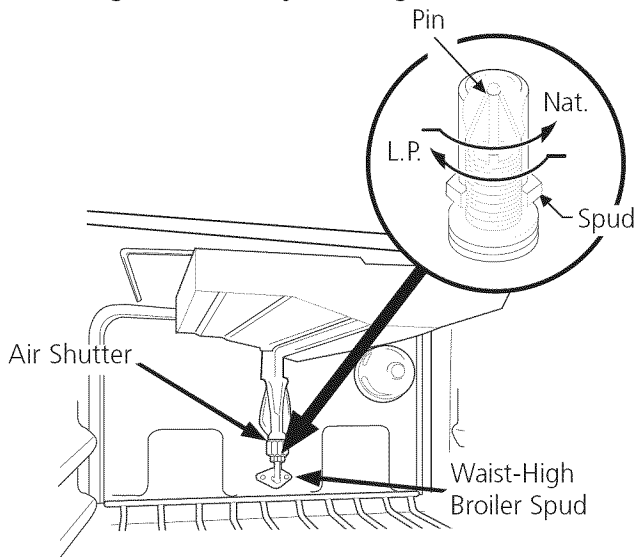

Figure 10
C. Adjust Broiler Burner Orifice (Self-Cleaning Models Only) (see figure 10)
Using a ½" wrench, turn down the adjustable spud which injects gas into the oven burner. Turn spud approximately 2½ turns until snug against the LP metering pin. Do not overtighten (see figure 10).